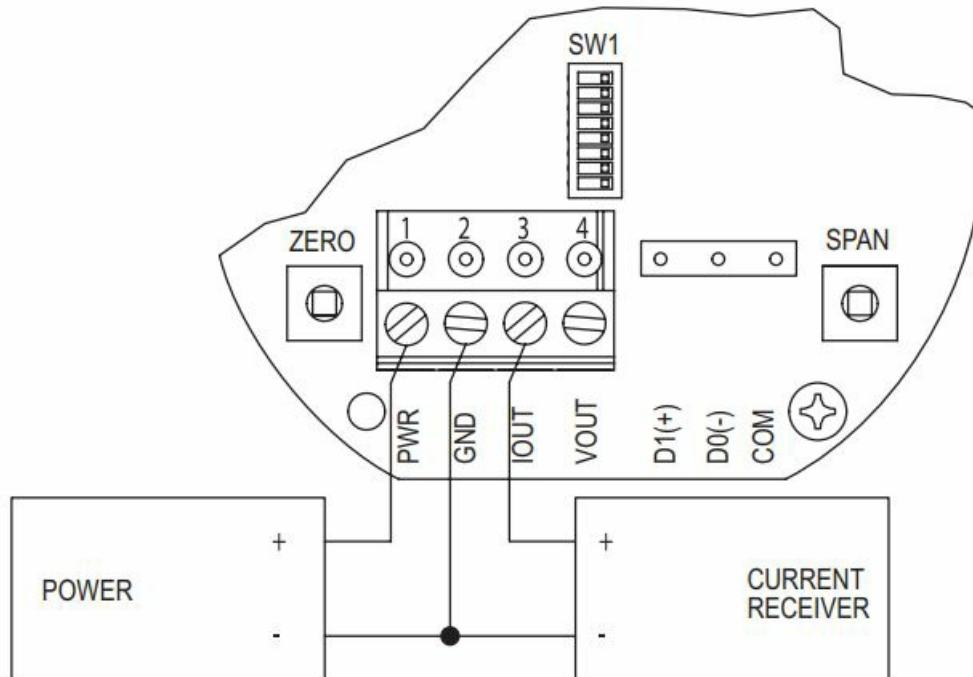
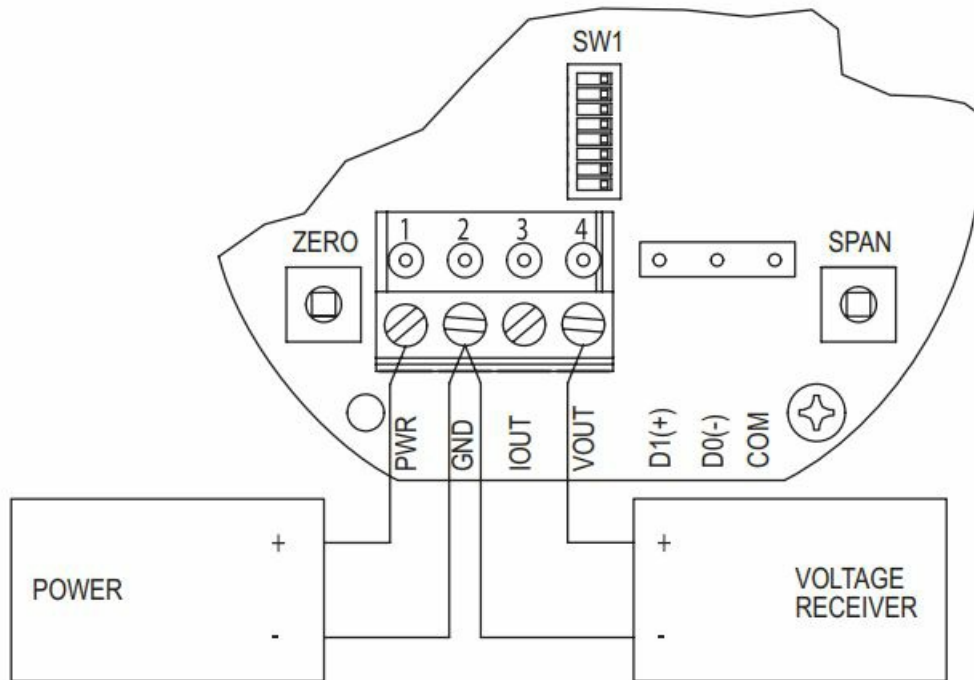
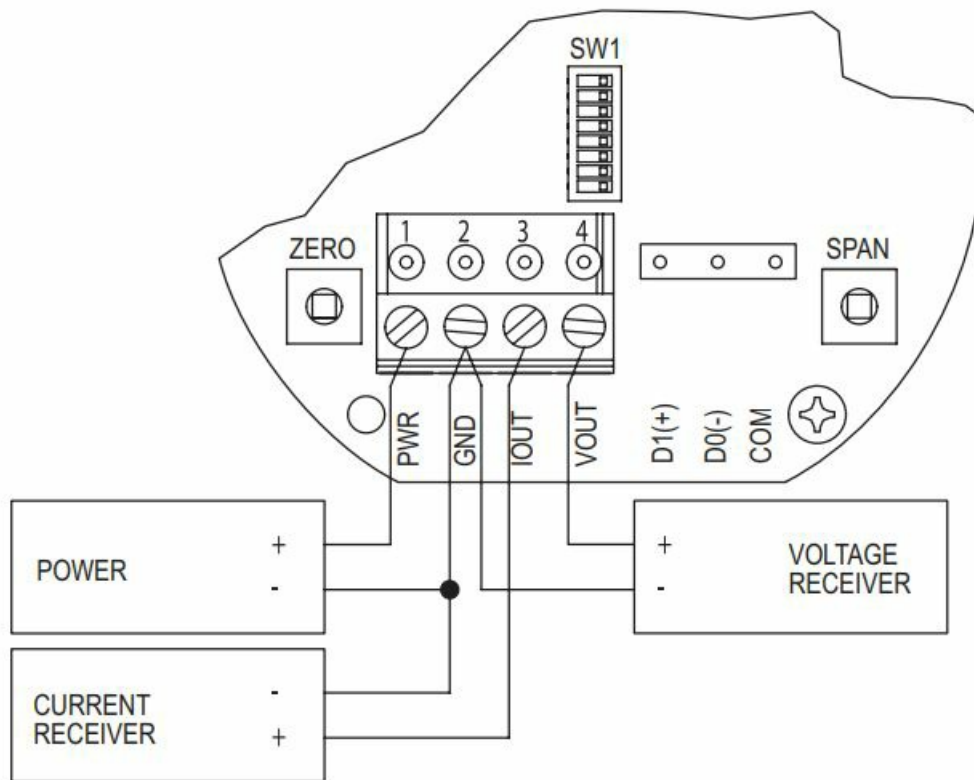
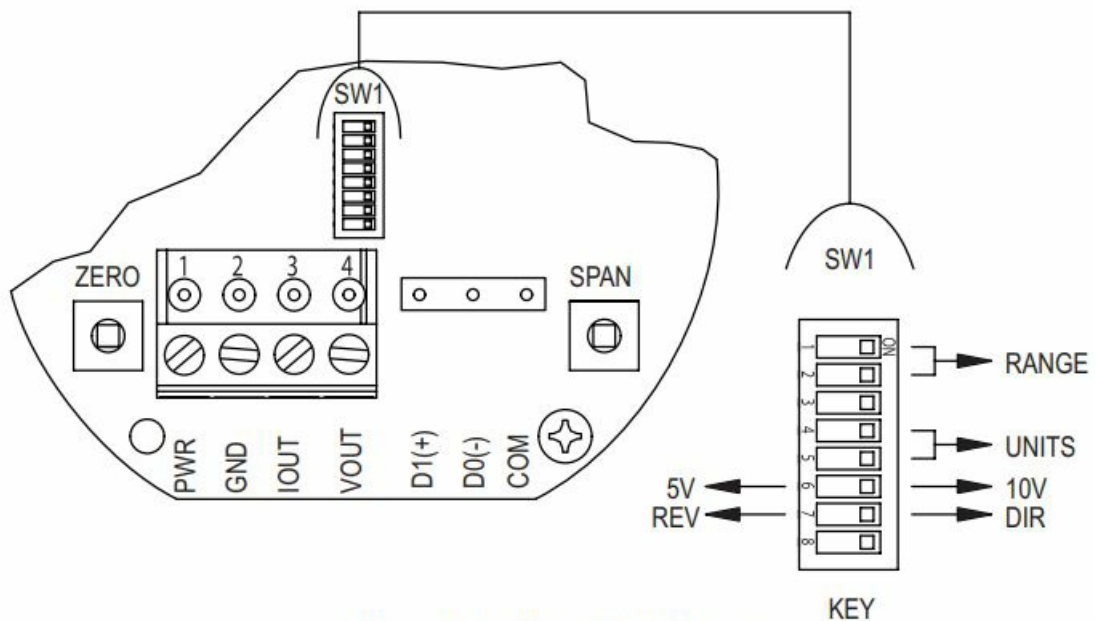

Figure 1: Current output wiring
Figure 2: Voltage output wiring
Figure 3: Simultaneous current and voltage output wiring
Figure 4: Analog dip switches
1, 2, and 3 (PWR, GND, and IOUT respectively) on the terminal block as shown in Figure 4.
10. For current output operation, ensure that you do not exceed specified supply voltage ratings as permanent damage not covered by warranty can occur. The connections to the transmitter are made to terminals 1, 2, and 3 (PWR, GND, and IOUT respectively) on the terminal block as shown in Figure 4.
The terminal block is removable, and each of the terminals are labeled underneath the terminal block on the circuit board. As the power supply and outputs share the same common signal (GND), the outputs may have separate wires but must effectively join at terminal 2 of the transmitter, as shown in Figure 1. The connections to the transmitter are made to terminals 1, 2, and 3 (PWR, GND, and IOUT respectively) on the terminal block as shown in Figure 4.
The terminal block is removable, and each of the terminals are labeled underneath the terminal block on the circuit board. The voltage output and the power supply must have separate wire leads that are only joined at terminal 2 of the transmitter, as shown in Figure 2. Additional error may occur for the voltage output if a single wire is used or if the wires are joined at the power supply or receiver. The connections to the transmitter are made to terminals 1, 2, and 4 (PWR, GND, and VOUT respectively) on the terminal block as shown in Figure 4.
The terminal block is removable, and each of the terminals are labeled underneath the terminal block on the circuit board. The voltage output and the power supply must have separate wire leads that are only joined at terminal 2 of the transmitter, as shown in Figure 3. Additional error may occur for the voltage output if a single wire is used or if the wires are joined at the power supply or receiver. The connections to the transmitter are made to terminals 1, 2, 3 and 4 (PWR, GND, IOUT, and VOUT respectively) on the terminal block as shown in Figure 4, which reflects both the 4-20 mA and 0-5/10 VDC outputs in the same circuit. Details of each output are detailed in their electrical connection sections.
The analog output DIP switches (SW1) are located above the terminal blocks on the left as shown in Figure 4. A small screw driver or pen can be used to change the position of the switches as required